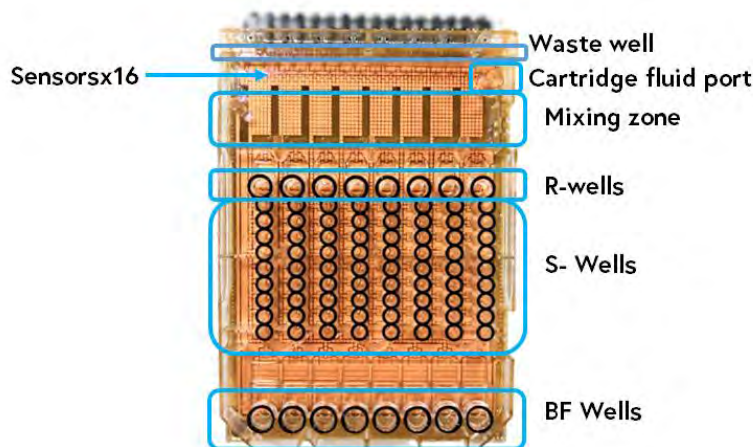

Figure 3.10: Alto Cartridge Top View
4. **Wells:** The different types of wells on every cartridge are defined in Table 3.1 and are shown in Figure 3.10.